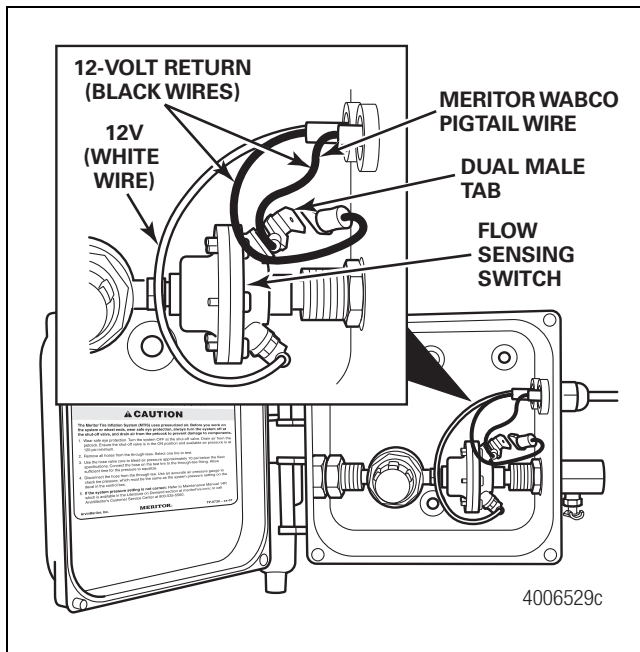
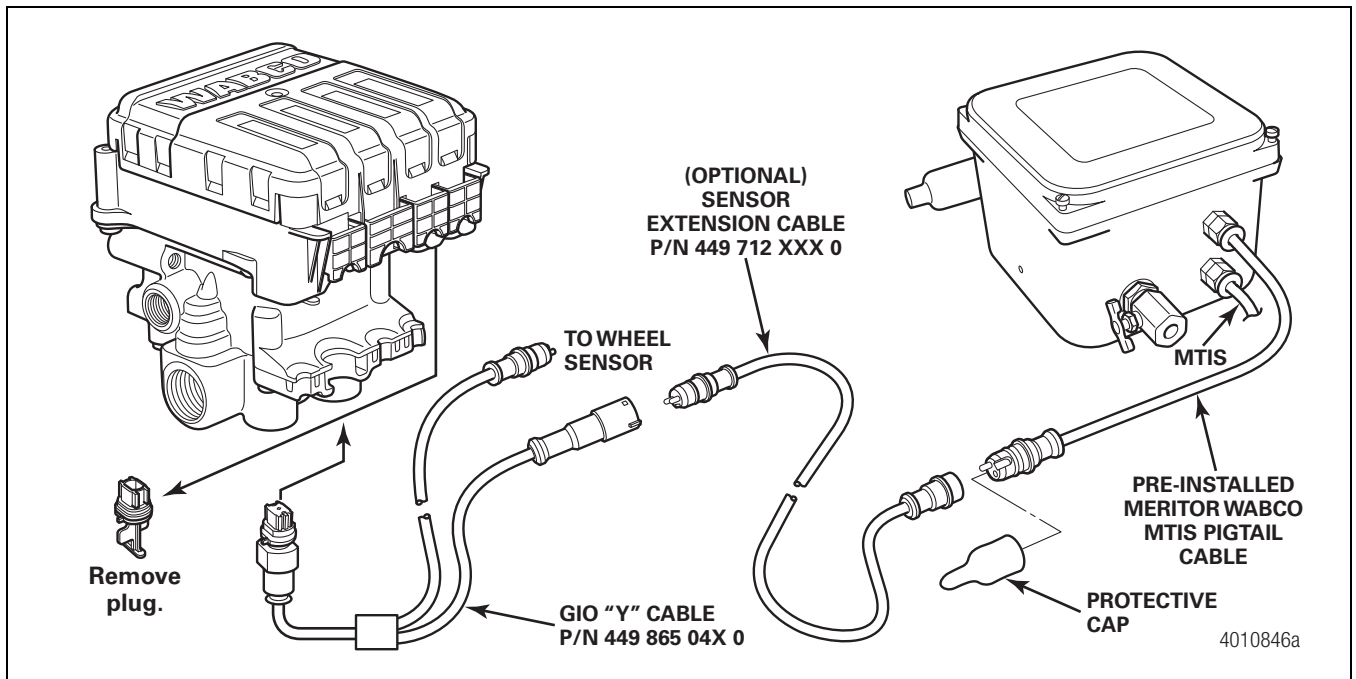

Figure 1
Figure 2
3. Install the MTIS control box with the Meritor WABCO MTIS pre-installed pigtail cable. Figure 1.
4. Insert the black and white wires of the MTIS electrical cable through the unused black locknut and into the MTIS box. Figure 1. Turn the black locknut CLOCKWISE to fasten securely. Figure 2.
5. Fasten the 12-volt return (black) wire terminal of the MTIS electrical cable onto the dual male tab as shown in Figure 1. Confirm that the 12-volt return (black) wire terminal of the Meritor WABCO MTIS pigtail cable is attached to the flow sensing switch as shown in Figure 1.
6. Fasten the 12-volt (white) wire of the MTIS electrical cable terminal onto the tab on the opposite side (bottom shown) of the flow sensing switch. Figure 1.
7. Remove the protective caps from the Meritor WABCO MTIS pigtail cable and the GIO "Y" cable. Figure 2.
8. Connect the Meritor WABCO MTIS pigtail cable to the optional sensor extension cable. Figure 2.
9. Connect the optional sensor extension cable to the GIO "Y" cable. Figure 2.